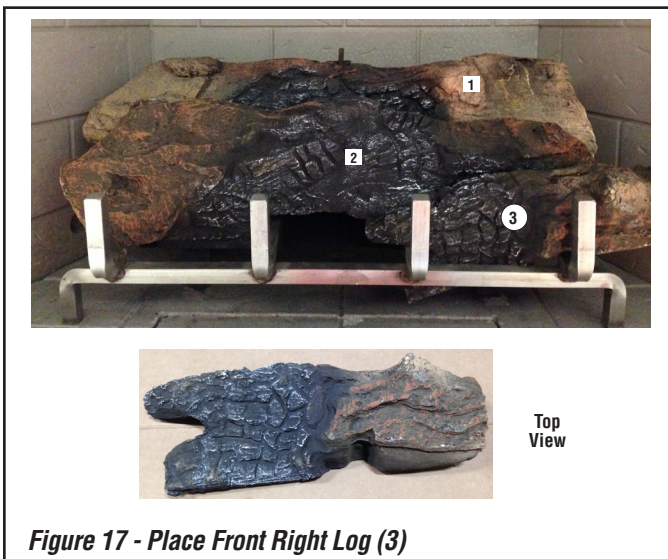

Figure 17 - Place Front Right Log (3)
3. Place front right log (3) onto grate. The notch on the "charred section" will fit around the grate (Figure 17).